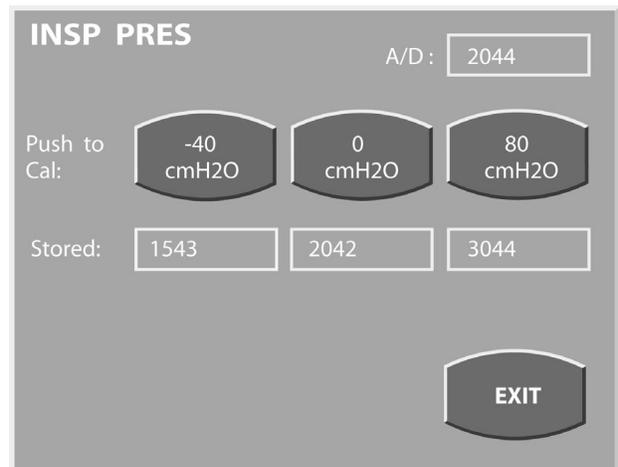

Figure 7.4 Inspiratory pressure transducer calibration screen
1. From the Calibration screen menu, press INSP PRES to access the inspiratory pressure transducer calibration screen. See figure 7.4